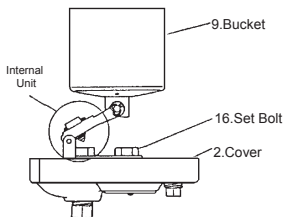

Fig. 4
- 1) Remove the cover bolts (20) and remove the cover (2) from the body (1).
- 2) The internal unit and bucket (9) can be removed while connected to the cover (2). (See Fig. 4)